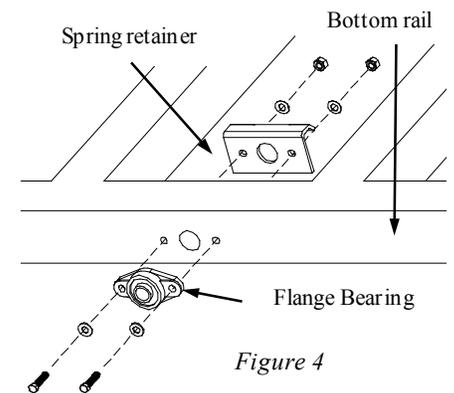

Figure 4
**Installing the spring assembly,** see figure 4. Start by welding the spring support angle into place. Measure in from the outside of the bottom rail (the outside edge of the angle should be 13" from the outside edge of the bottom rail). Next hold the top of the angle against the bottom of the horizontal standards at 13" from the outside of the top rail and weld or bolt into place, see figure 4a. Then place the spring assembly by first using the nearest horizontal standard as a reference point. Measure to the center of the hole previously cut for the spring shaft, then measure the same distance from the same horizontal standard and mark the support angle at this point. Place the spring assembly putting the pillow block bearing on top of the angle and inserting the spring shaft out through the bottom rail. The center of the pillow block bearing should be placed at the mark on the angle, (this will make the spring shaft square with the bottom rail). Next align the outside edge of the pillow block bearing flush with the outside edge of the support angle and clamp into place. Using a 3/8" drill bit, drill holes in the support angle to match the holes in the pillow block bearing. Then use 3/8" x 1-1/2" hex bolts, 3/8" flat washers, and 3/8" nuts to fasten the bearing firmly to the angle.